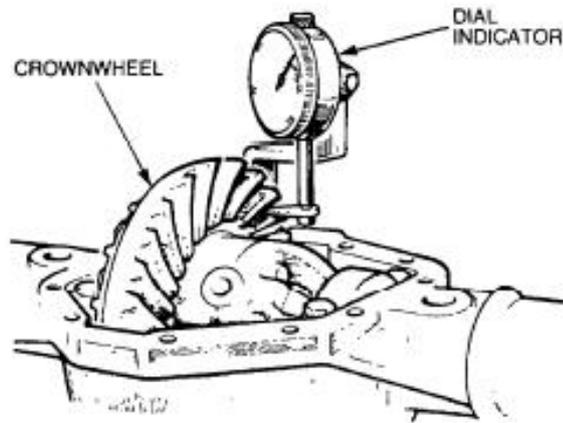

Figure 228 Differential Backlash Final Check
- gg. Position the dial indicator (Table 3, Serial 57) on the axle casing and place the stylus on a crown wheel tooth (Figure 228). Hold the pinion shaft flange and measure the backlash between the crown wheel and pinion gear teeth. The backlash should be between 0.15 to 0.27 mm (0.006 to 0.011 in), if it is not within this range repeat the procedure described in sub-paras r to x.